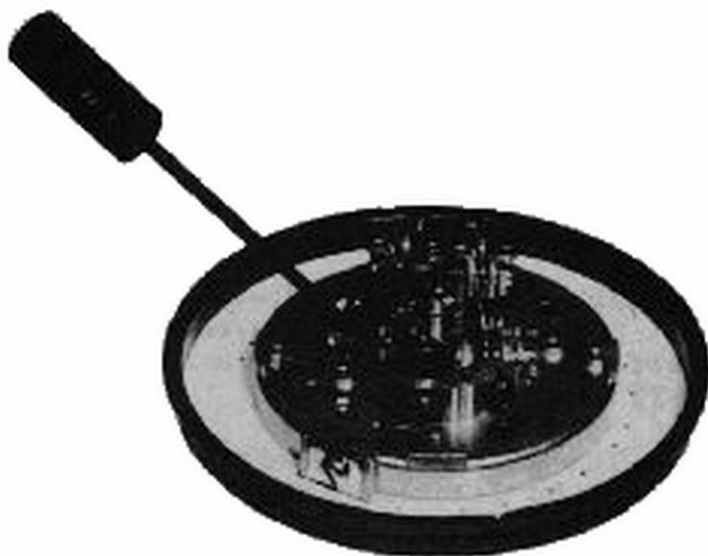

Figure 2. Correct Position of Spring Bender on Governor Wing.
5.02 Either a pair of dial pliers or a spring bender should be used as the adjusting tool. Perform the following steps (see Figures 2 and 3):